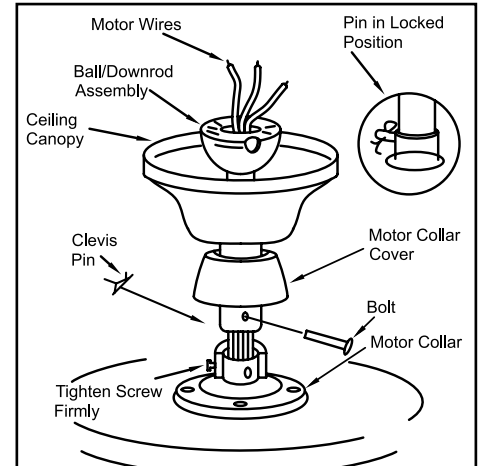

Figure 6
2. Route the wires exiting the top of the fan motor through the motor collar cover, canopy and then through the ball/downrod assembly (Figure 6).
4. Align the holes at the bottom of the downrod with the holes in the collar on top of the motor housing (Figure 6). Carefully insert the bolt through the holes in the collar and downrod. Be careful not to jam the bolt against the wiring inside the downrod. Insert the
clevis pin and bend to ensure security, as noted in the circle inset of Figure 6.
5. Tighten the two screws on top of the fan motor firmly (Figure 6).